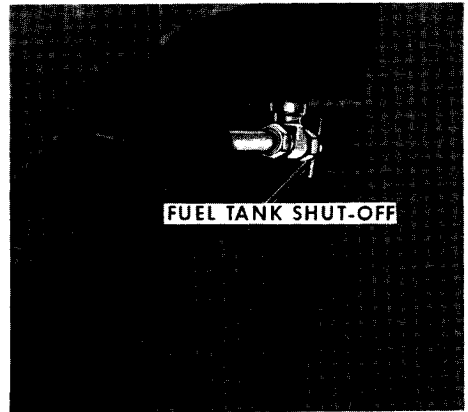

Figure 26
**FUEL TANK SHUT-OFF** - Figure 26. Turn valve fully in to shut off fuel from the tank.